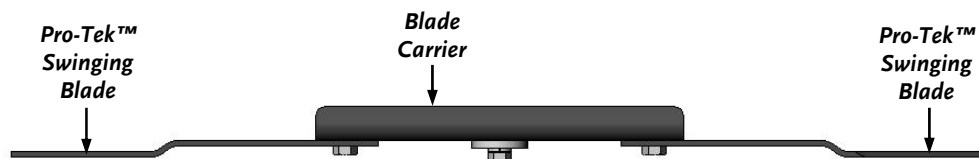

Figure 26
2. Reinstall the sharpened or a new Pro-Tek™ Swinging Blade in the orientation shown (Figure 26).